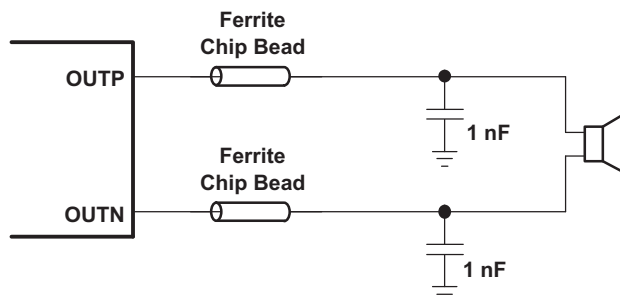

Figure 22. Typical Ferrite Chip Bead Filter (Chip Bead Example: NFZ2MSM series from Murata)
- **Output filter**—The ferrite EMI filter (Figure 22) should be placed as close to the output pins as possible for the best EMI performance. The capacitors used in the ferrite should be grounded to power ground.